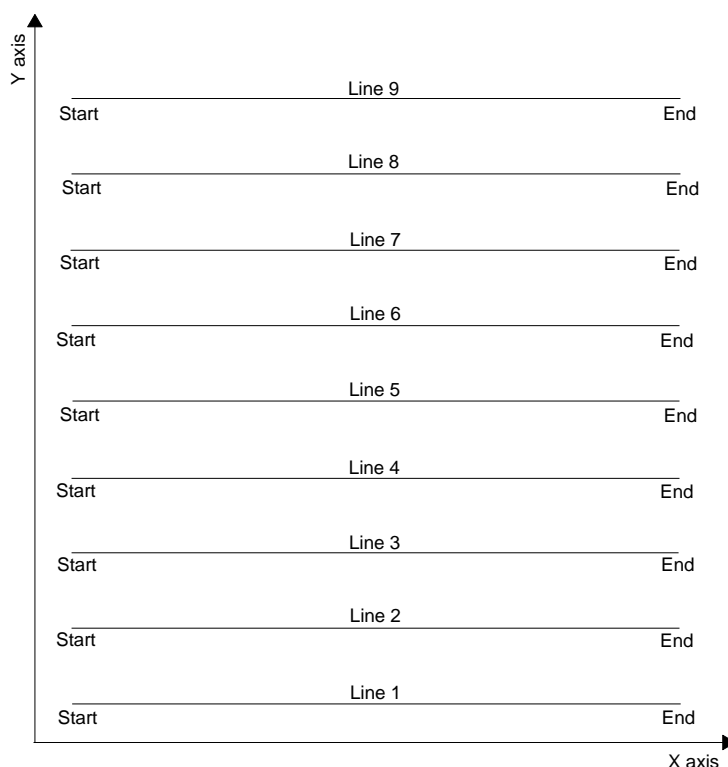

Figure 56 *This example shows a survey consisting of 9 parallel lines oriented in the x-direction and offset in the y-direction.*
A condensed step-by-step description is given below, in which it is assumed that the direction of the (first) electrode cable is called X, and that the perpendicular direction is called Y (Figure 56). In this figure, all lines have their first electrode at the same X location (no left-right offset) and it is only the Y location that differs between them. The description assumes that Res3Dinv (from Geotomo/Aarhus Geosoftware/Seequent) is to be used for the inversion, but the majority of the procedure should be applicable to alternative inversion software.
9. Make a copy of the file "COLLATE_2D_TO_3D.TXT" (used to list and arrange a set of 2D profiles for collation into a single 3D file). The original can be found in the Res2Dinv program directory and, in your new copy, change the filenames (for input and output) and the coordinates, according to the present survey. The line direction in Figure 56 is zero in all cases (Res2Dinv defines X as 0, and Y as 1) and the line direction/sign is also zero (Res2Dinv defines forward (i.e. L-R) as 0, and reverse (i.e. R-L) as 1).